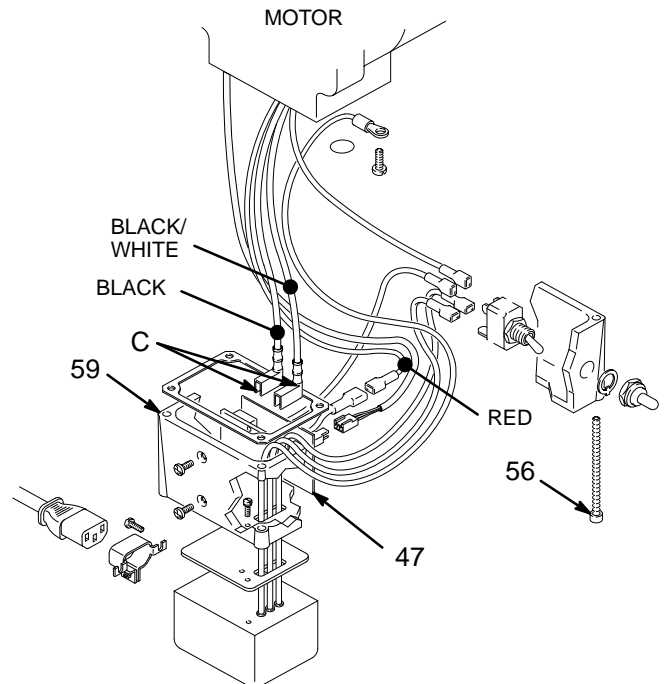

Fig. 12
Remove the junction box screws (56). Lower the junction box. Disconnect the two leads (C) from the motor to the board (47). See Fig. 12.